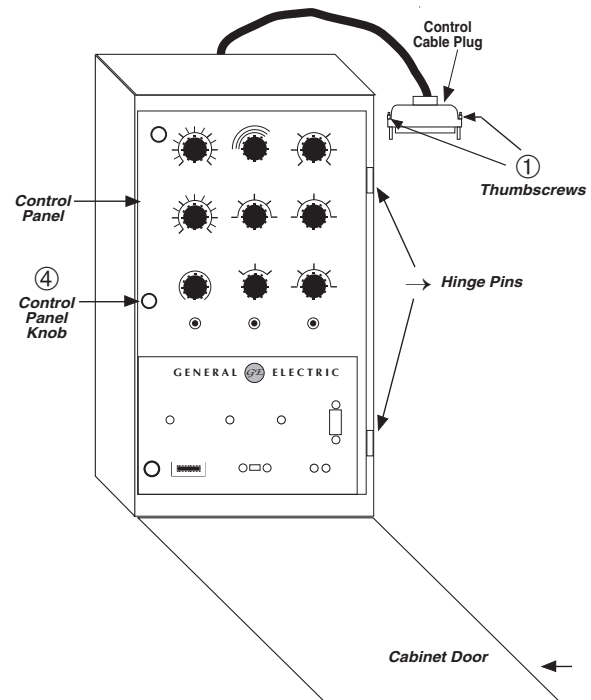

Figure 8-11 General Electric Control in Cabinet
2. Loosen the two thumbscrews at the interface of the control cable plug (Item #1, Figure 8-11) and the tap position indicator on the regulator, then pull down on the plug to disconnect it.
3. Turn the knob on the control panel (Item #2, Figure 8-11), then swing the panel outward.
7. While supporting the panel, remove and save the two hinges pins (Item 3, Figure 8-11), then lift the panel off the hinges.
6. Reconnect control cable plug to tap position indicator (Item #1, on Figure 8-11).